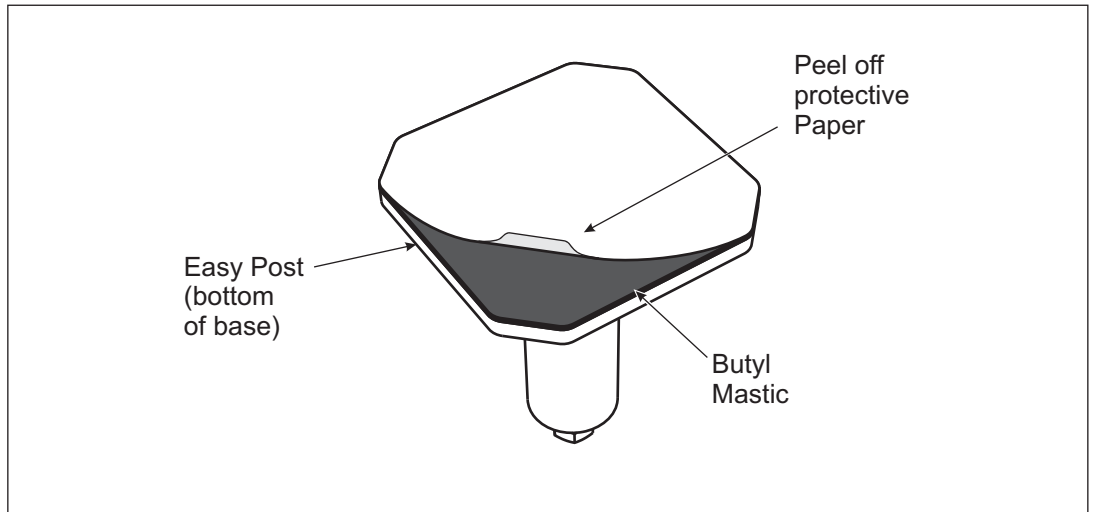

Figure 1: Removing Protective Paper
- From the bottom of Easy Post, Peel off the protective paper backing that protects the butyl mastic. (see Fig. 1)